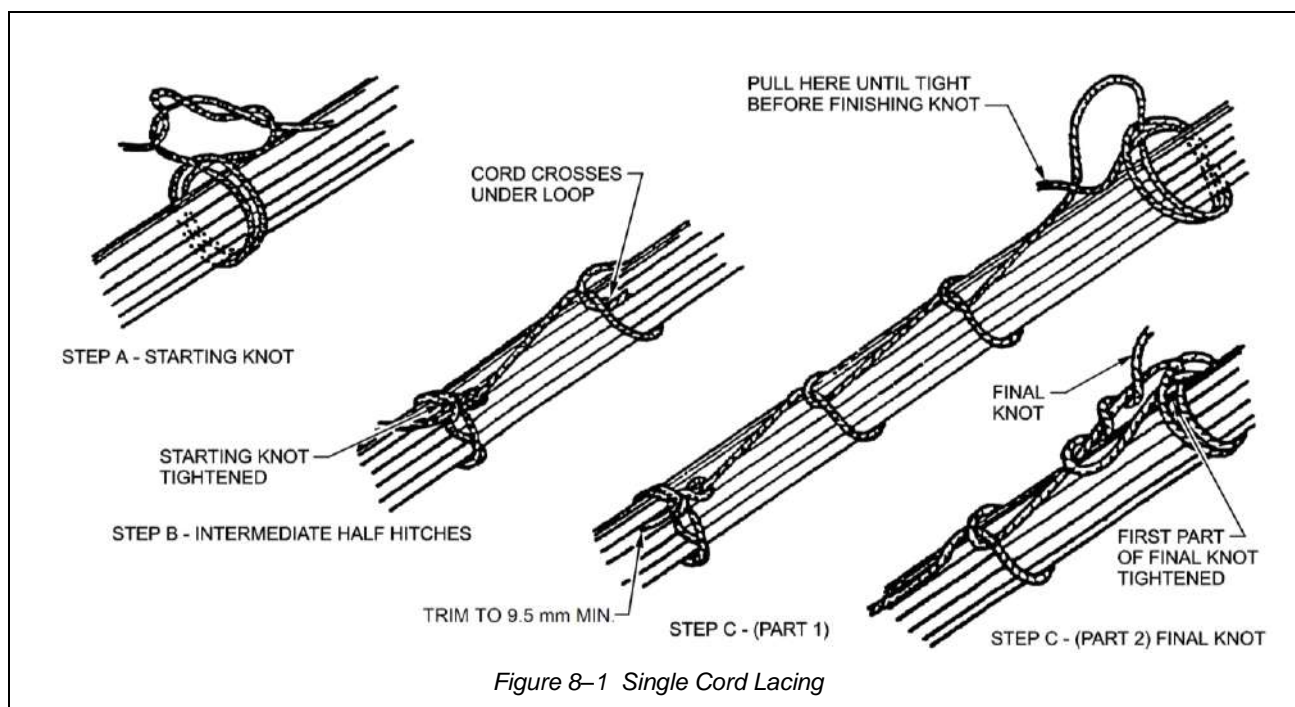

Figure 8-1 Single Cord Lacing
22. Lace a wire group or bundle with a single cord as follows (see Figure 8-1):